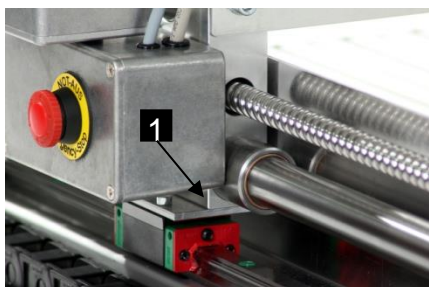

Figure 37.: Ball bearing carriages Y-axis
- 1 Place grease gun with multi-purpose grease onto the grease fitting of the ball recirculation (Fig. 37/1).